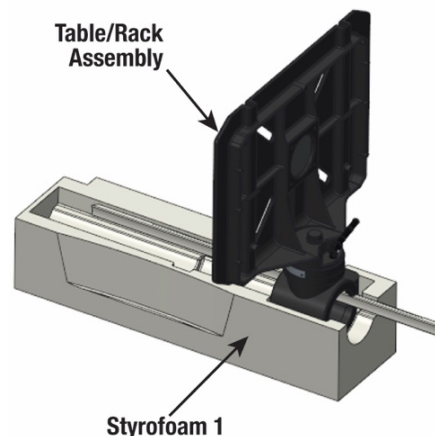

Figure 6-6: Table/Rack Assembly in Styrofoam 1
3. Place the table/rack assembly onto Styrofoam 1 as shown in Figure 6-6.